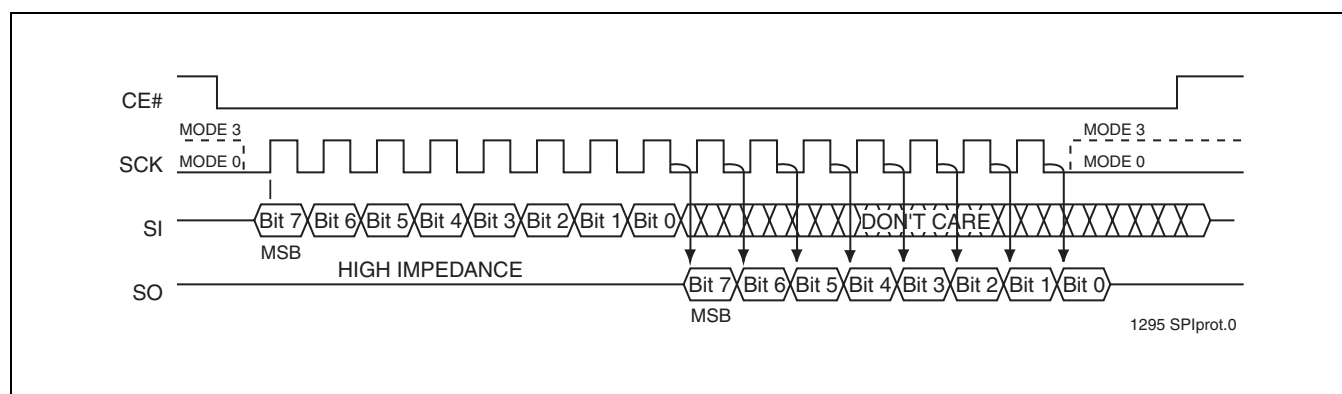

FIGURE 2: SPI PROTOCOL
The SST25VF040B supports both Mode 0 (0,0) and Mode 3 (1,1) of SPI bus operations. The difference between the two modes, as shown in Figure 2, is the state of the SCK signal when the bus master is in Stand-by mode and no data is being transferred. The SCK signal is low for Mode 0 and SCK signal is high for Mode 3. For both modes, the Serial Data In (SI) is sampled at the rising edge of the SCK clock signal and the Serial Data Output (SO) is driven after the falling edge of the SCK clock signal.